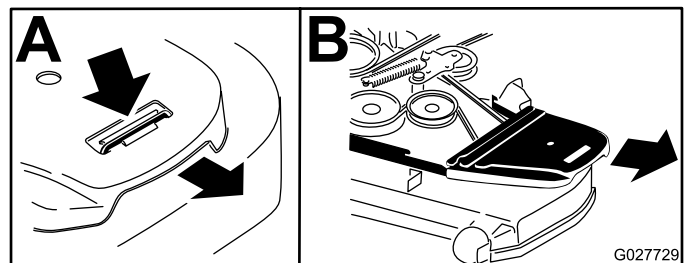

Figure 85
6. Remove the belt covers and the bolts attached to them (Figure 85).